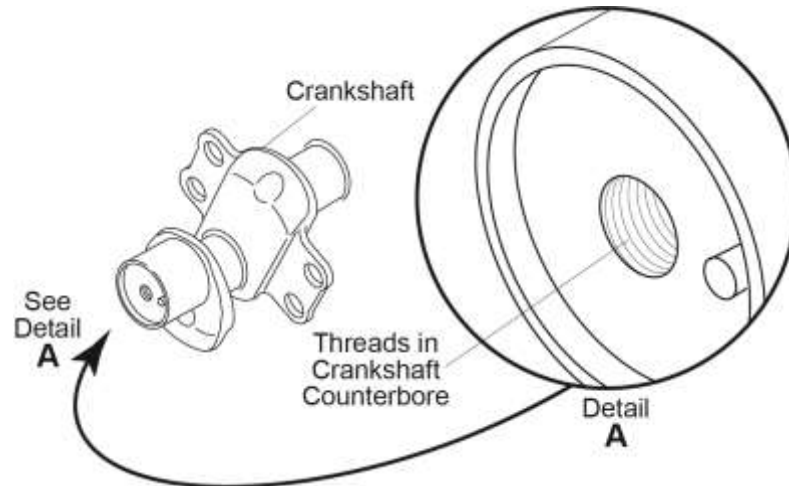

Figure 1
- (2) Install the tap into the recessed counterbore on the crankshaft.
- (3) Turn the tap as necessary to clean the threads.
- (4) Remove the tap.
- (5) Flush the crankshaft counterbore threads with mineral spirits (MIL-PRF-680) or equivalent or Stoddard Solvent, or equivalent solvent to remove any debris.
- (6) Dry the crankshaft counterbore threads with compressed air.
D. Examine the threads in the crankshaft counterbore (Figure 1). If the threads are worn, stripped, galled, or damaged, send the crankshaft to Lycoming Engines for repair.